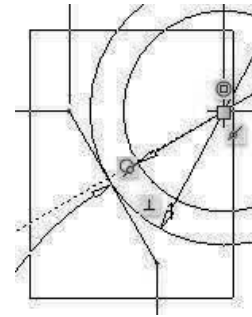

Figure 3-64 Zoom In
**Step 29:**  Select the **Zoom In** icon from the graphics tool bar. Draw an imaginary box around the area where the outer diameter of the pipe touches the slanted surface using the LMB. See Figure 3-64. Press the MMB to exit from this mode.